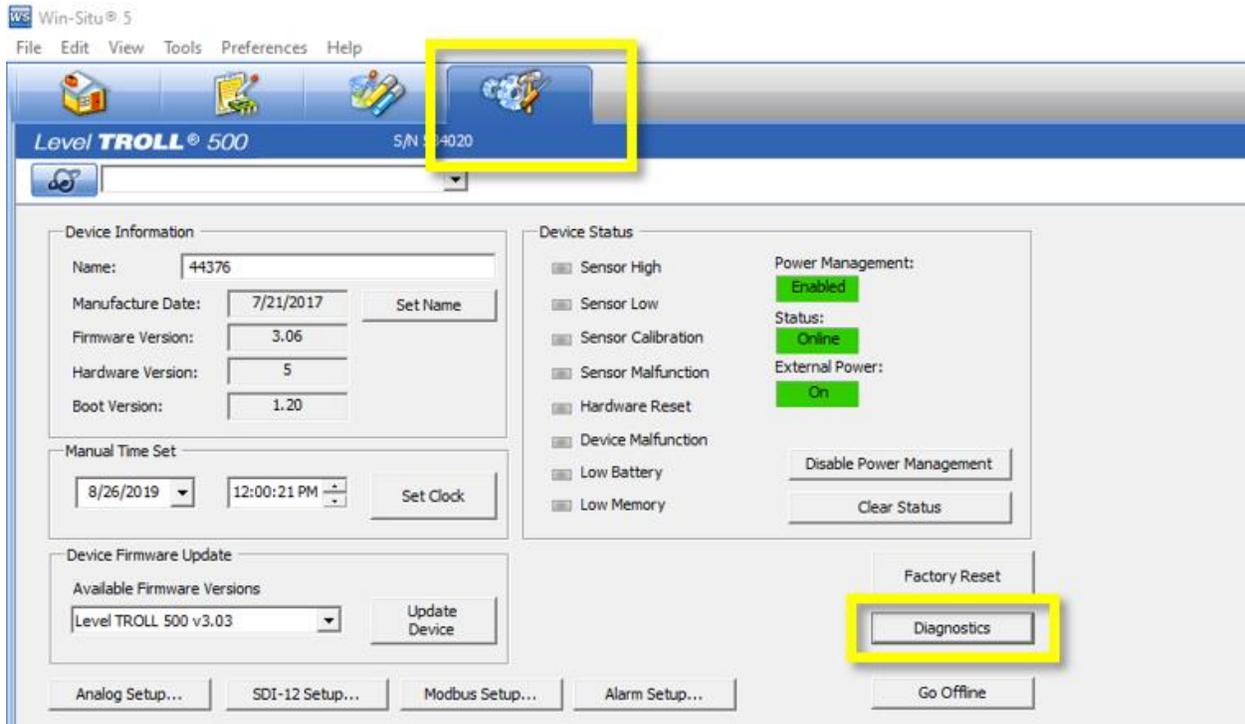

Figure 8. Navigate to the Settings Tab and Select Diagnostics to Check Internal and External Voltage
1. Check the internal and external voltage by navigating to the **Settings** tab in WinSitu and selecting the **Diagnostics** button (**Figure 8**). This is the same for both the Aqua and Level TROLL.